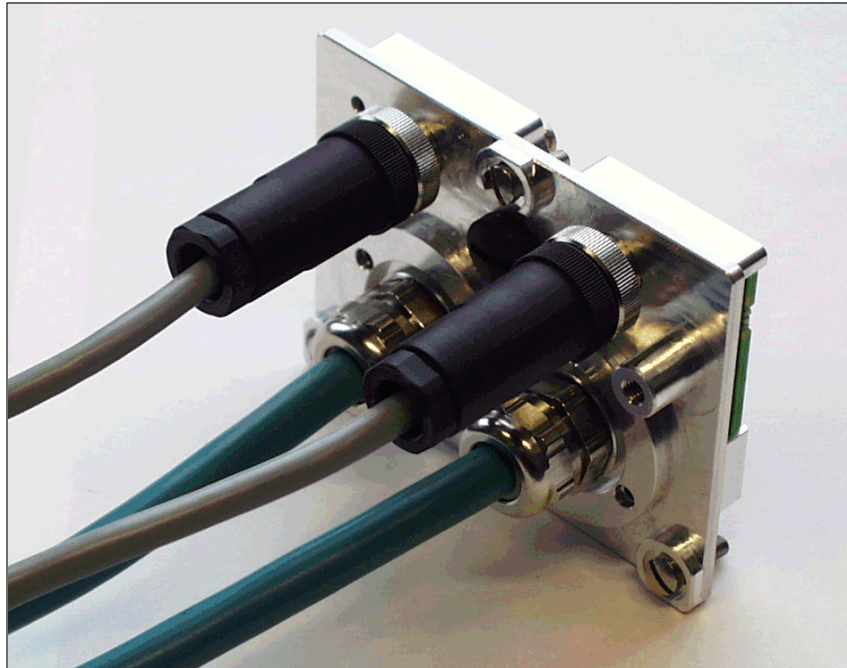

Fig. 2-32 PROFIBUS unit which has been connected up: Front view
- Front side → refer to Fig. 2-32